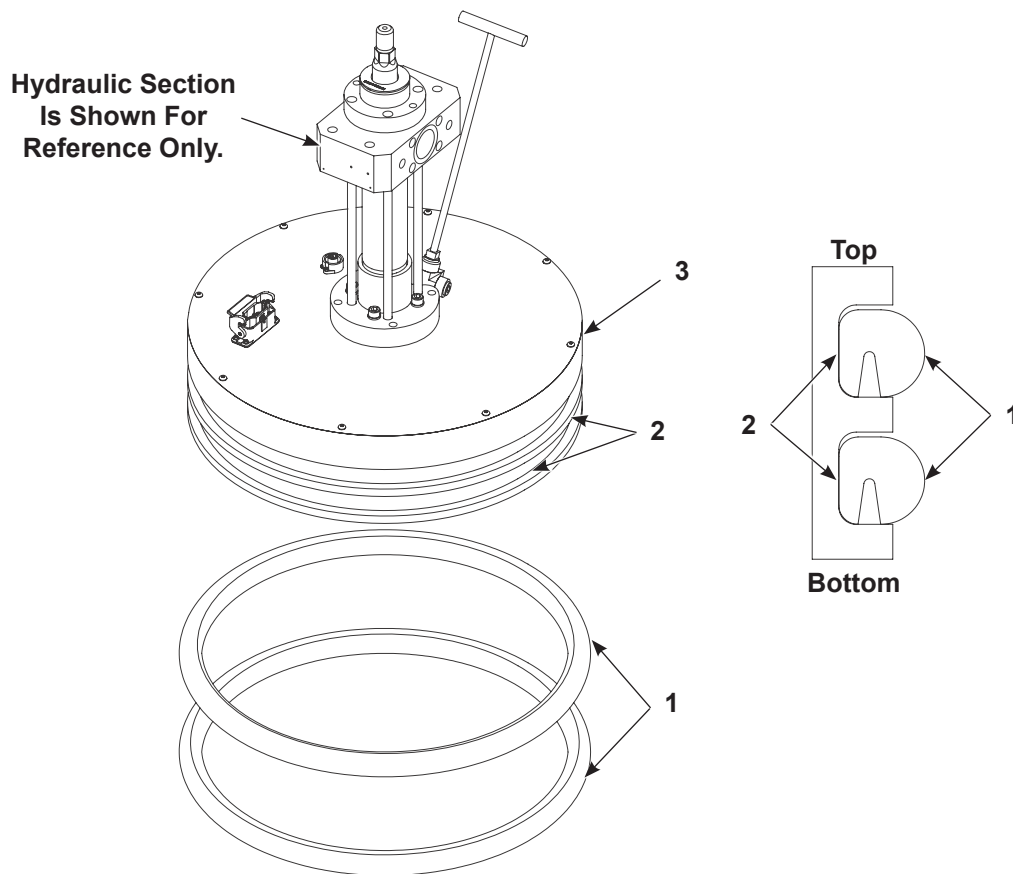

Figure 8-11 Remove/Replace Follower Module O-rings
See Figure 8-11 and Figure 8-12.
4. See Figure 8-11. Use either large screwdrivers or pry bars slid in behind the follower plate seals (1) to pry them out of the follower plate grooves (2) and off the follower (3).
5. Clean the follower plate grooves (2) and remove all foreign material.
6. Install the new follower plate seals (1) using either large screwdrivers or tire irons.
8. Apply material compatible grease to the follower plate seals (1).